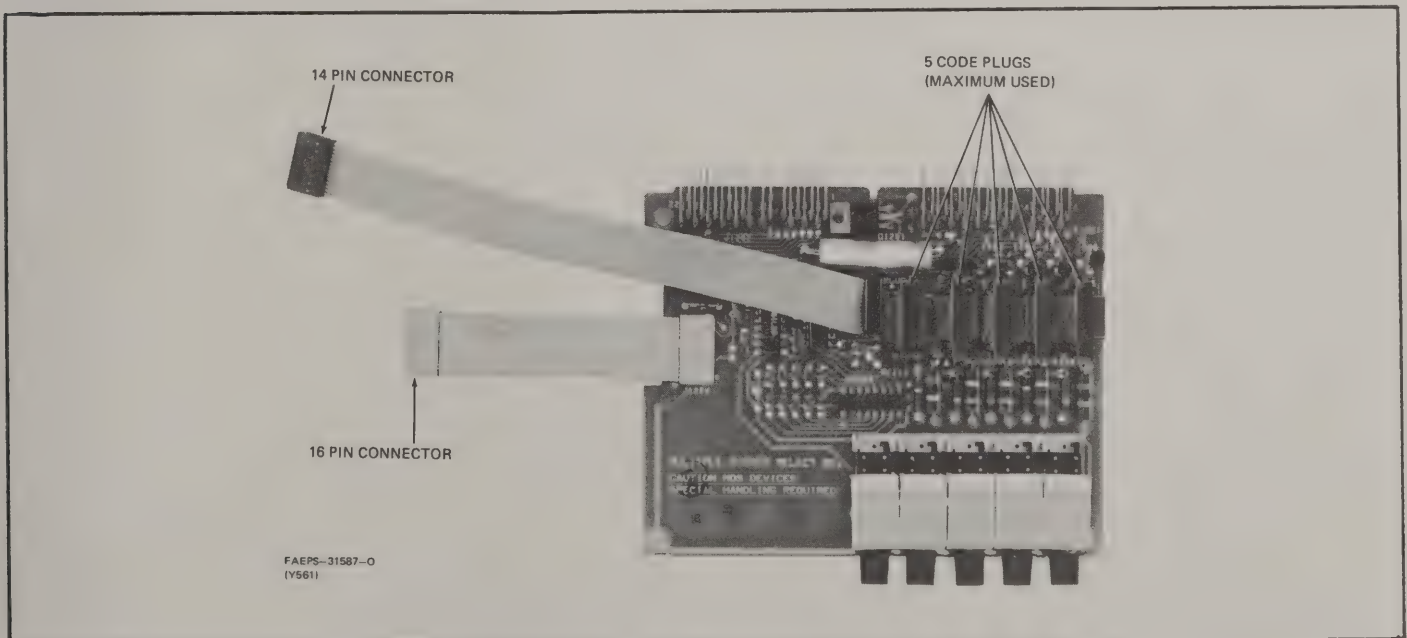

Figure 2. Multiple System (Code Plug) Select Board
Step 8. Plug the 14 pin and 16 pin flat ribbon cable connectors from the Multiple Code Plug Board (see Figure 2) into their respective sockets (J1105 and J1106) on the control head board. Ensure that pin 1 of the connectors mate with pin 1 of the sockets.
Step 10. If all five code plug sockets contain a code plug (see Figure 2), no button stops are required. If, however, less than five code plugs are provided, slip a button stop over each pushbutton switch shaft corresponding to a missing code plug.